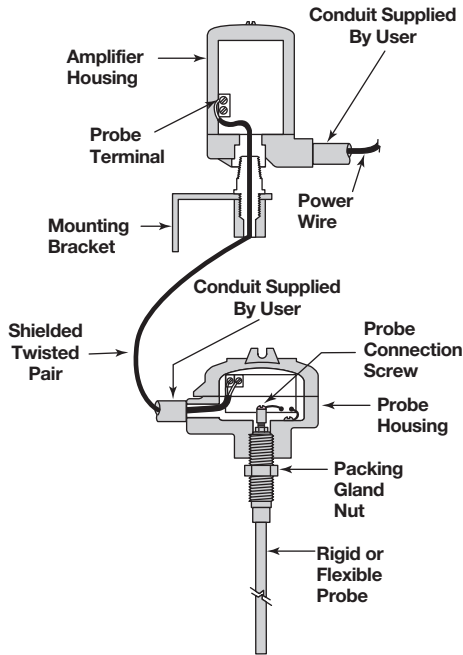

Figure 8
Remote amplifier assemblies are normally shipped from the factory assembled into an “L” mounting bracket. Refer to Figure 8 while following instructions.
2. Tighten securely being certain that the wrench is applied **ONLY** to the lower probe nut. Refer to Figure 8.
3. Screw the preamplifier housing onto the probe. Refer to Figure 8.
2. Pull power supply wires through conduit connection. Refer to Figure 8 on page 6.